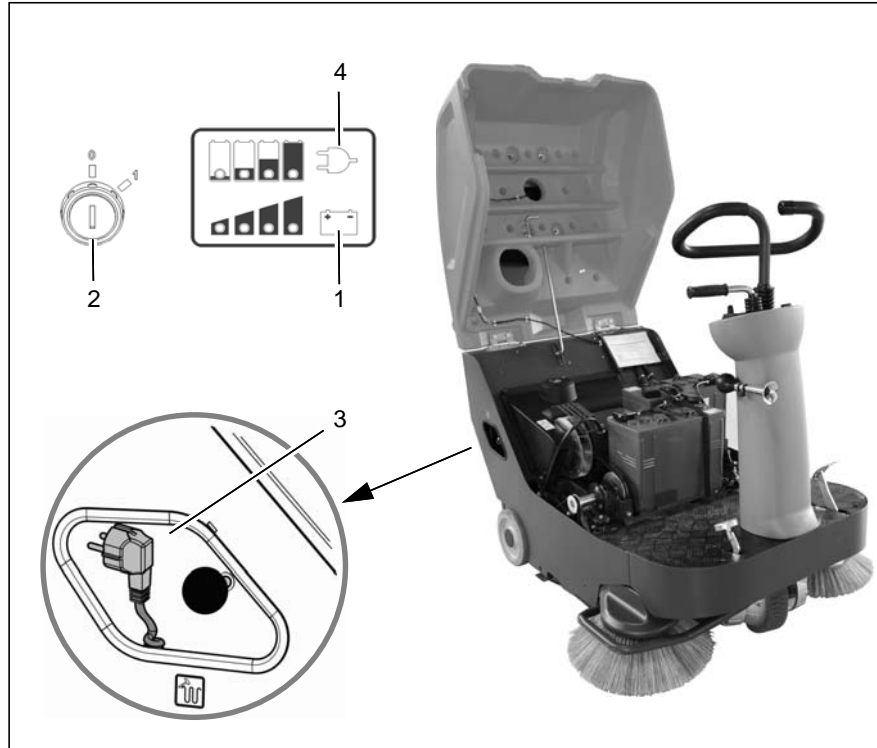

Fig. 13
During operation, the charge status indicator (Fig. 13/1) displays the discharge status of the batteries. When the red LED lights up, the battery must be charged immediately.
1. Switch the vehicle off using the key switch (Fig. 13/2) and secure with the parking brake. Remove the key.
2. Take the power cable (Fig. 13/3) from the opening and plug it into a power outlet (110-230 VAC).
3. While the battery is being charged, the charge control indicator (Fig. 13/4) lights up. When all three green LEDs light up, the batteries are fully charged.